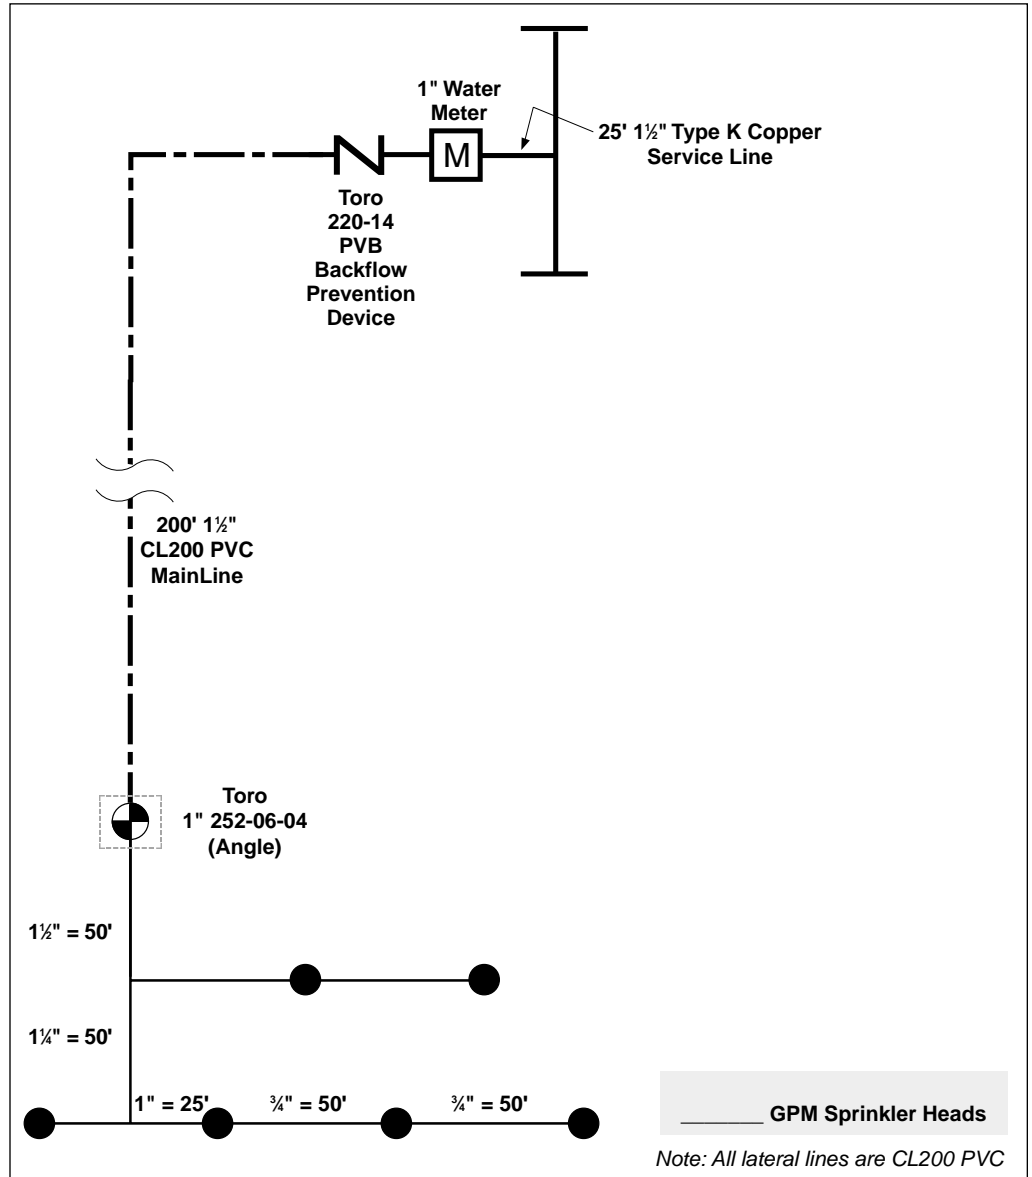

FIGURE 6.5
5. Determine the critical head in Figure 6.5 on the next page. Then, calculate the working pressure at the critical head.